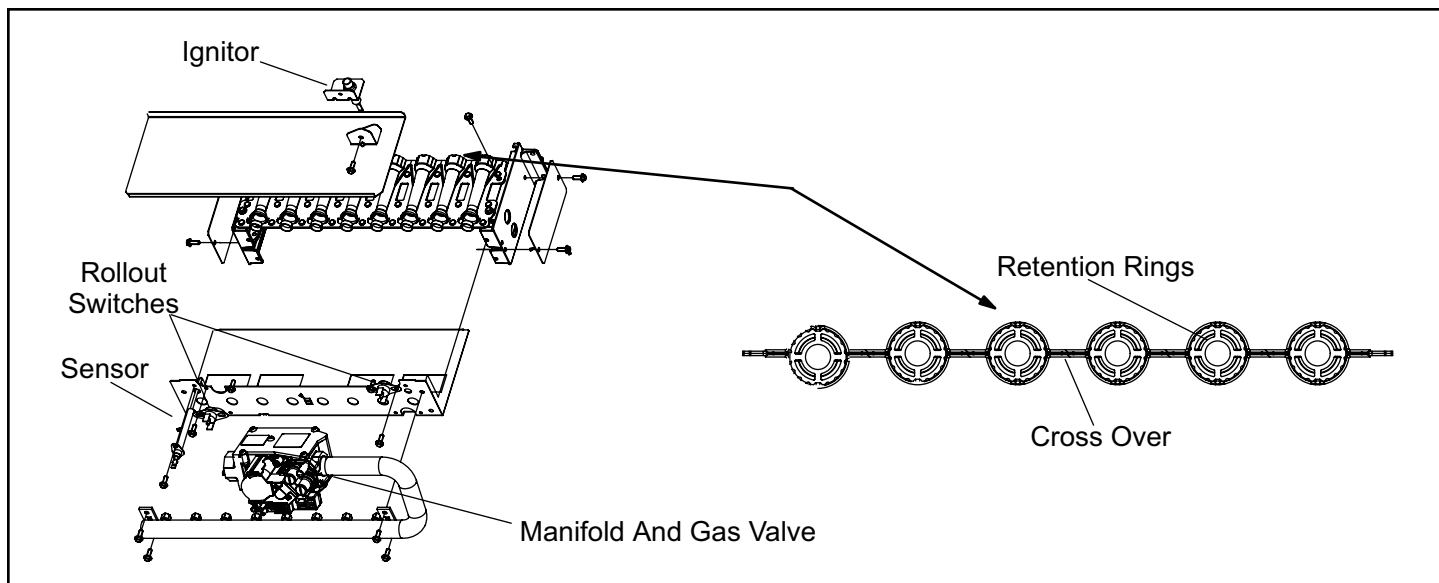

Figure 37. Burner Removal
4. To clean burners, run a vacuum cleaner with a soft brush attachment over the face of burners. Visually inspect inside the burners and crossovers for any blockage caused by foreign matter. Remove any blockage. Figure 37 shows burner detail.